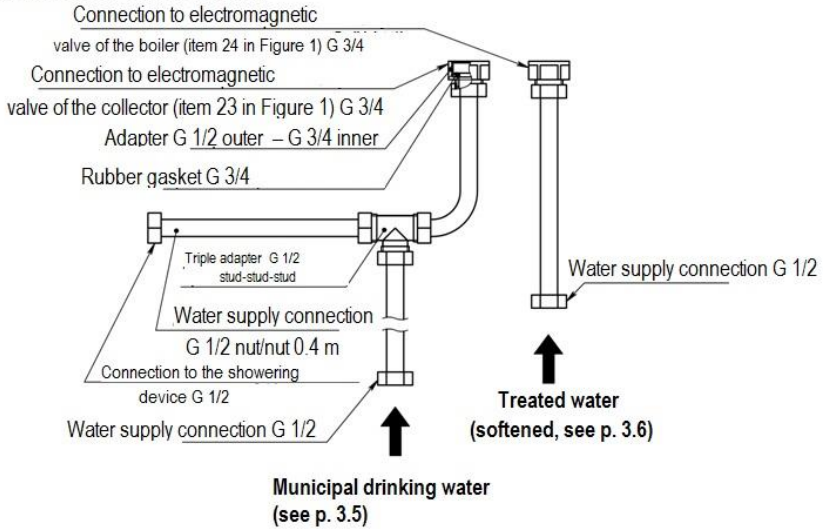

Fig. 5. Connection to a water supply system:
3.15. In order to connect showering device use valve at the left side of the article. Connect it with a flexible hose (Fig. 5).